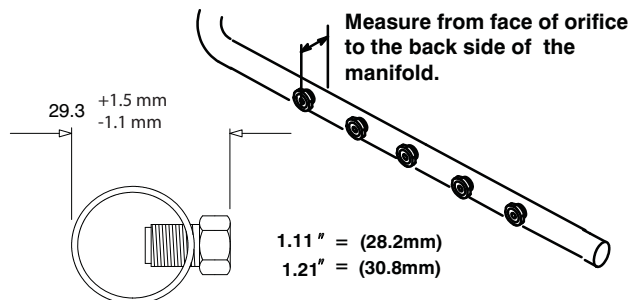

Fig. 3 - Changing Orifices
- Tighten the orifices so they are seated and gas tight about $1\frac{1}{8}$ " (28.6 mm) from the face of the orifice to the back of the manifold pipe (Fig. 3). Make sure orifice is installed straight so that it forms a right angle (90°) to the manifold.